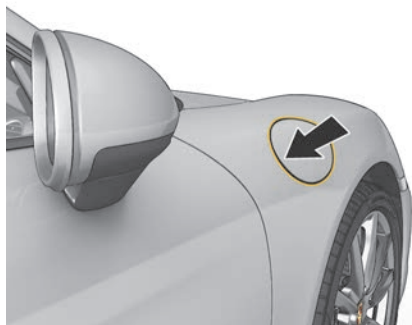

Fig. 179: Opening the filler flap
1. Open the filler flap by pressing on the rear part of the filler flap (Fig. 179).